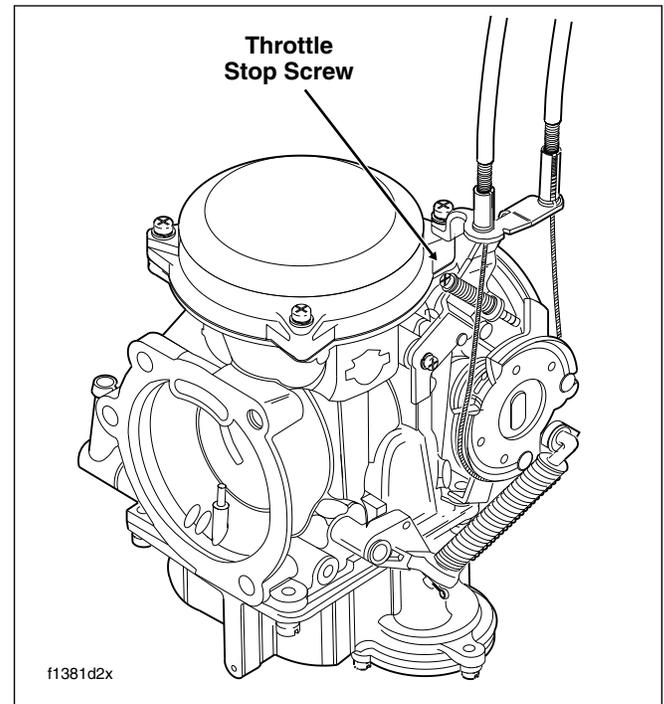

Figure 1-24. Idle Speed Adjustment
1. See Figure 1-24. With the engine at normal operating temperature and the enrichener all the way in (enrichener valve closed) adjust the throttle stop screw so the engine idles at 950-1050 rpm.